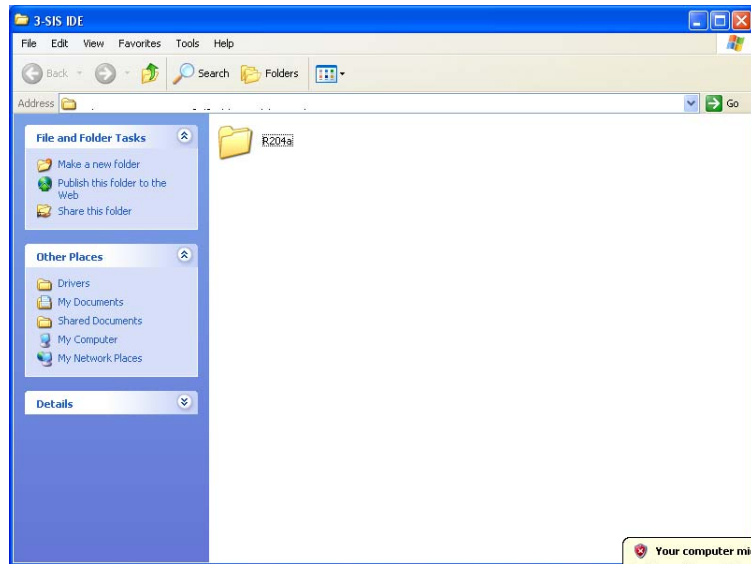

Figure 7-19: IDE Driver Directory
Step 2: The screen in **Figure 7-19** appears.
Step 3: Click on the directory icon in **Figure 7-19**.